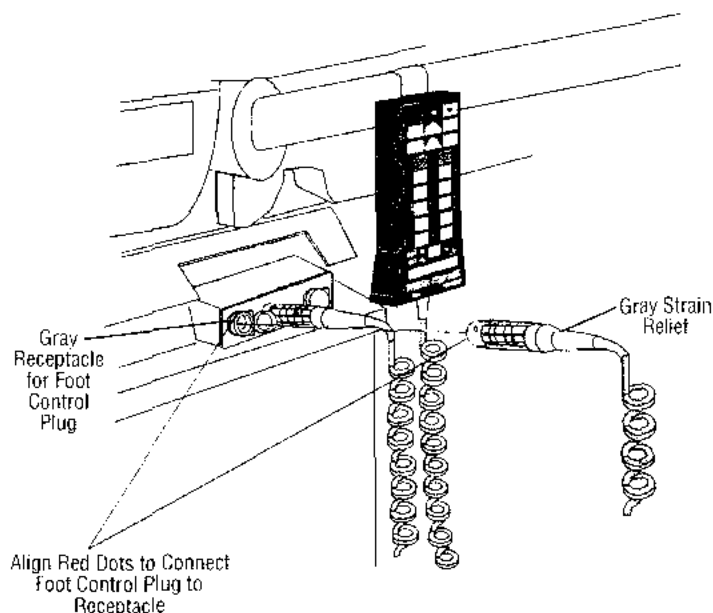

Figure 4-5. Foot Control Connection
2. Connect the foot control assembly to the table by aligning the red dot on the gray plug of the foot control cord with the red dot of the gray receptacle on the table, and pushing the plug into the connected position (see Figure 4-5).